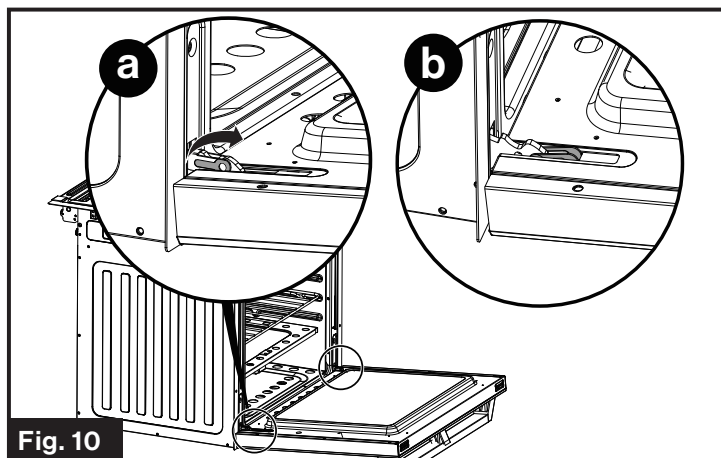

Fig. 10
3. Flip levers on hinges (one on each side) toward you. (Fig. 10)